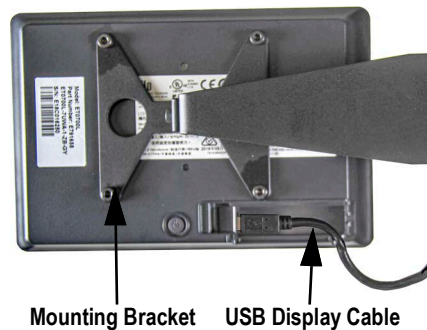

Figure 3-12. USB Display Cable
2. Remove the USB cable cover plate from the back of the USB display (USB cable cover not shown in Figure 3-12).